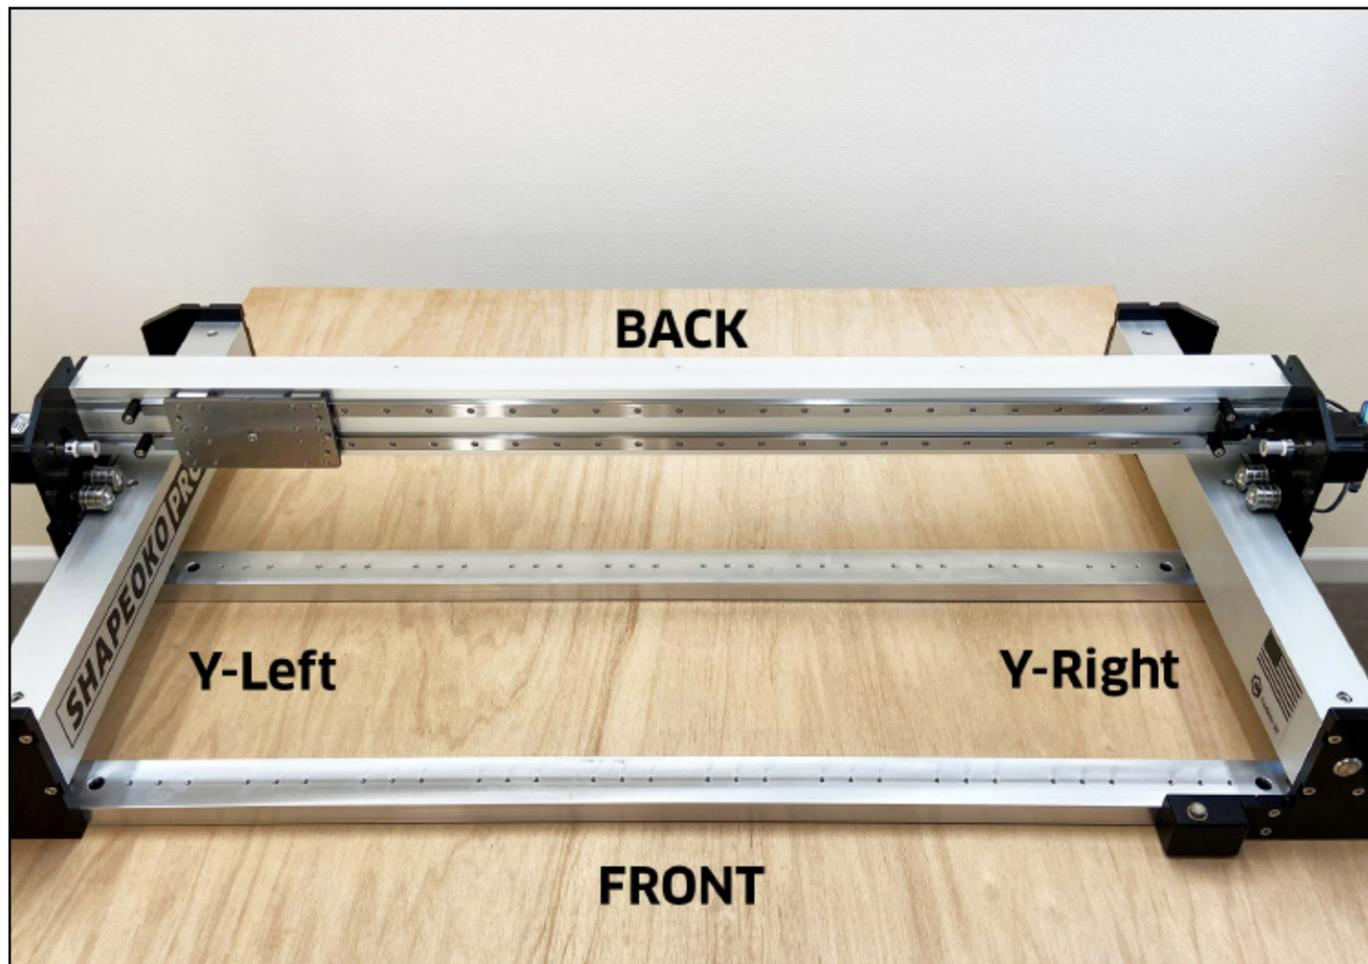

Figure 4-2
1. Position the X-Axis gantry across the center of the baseframe, resting it on the Y-Left and Y-Right carrier plates/bearing blocks. See **Figs. 4-2 and 4-4.**